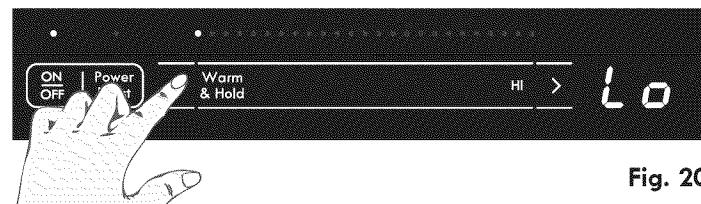
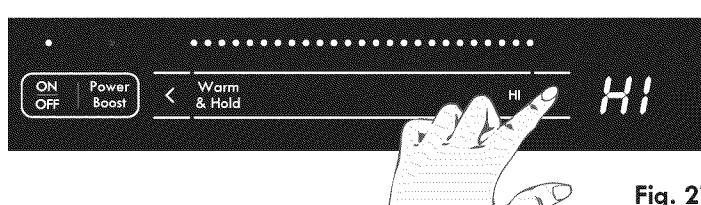

Fig. 20
Fig. 21
Touch < or/and > slew pads for precise power value setting. At startup, pressing < will set the control at Low (Fig. 20) and pressing > will set it at Hi (Fig. 21).
4. Set the desired power level for the Cooking Zone by using one of the three methods explained earlier. If the > key pad (Fig. 21) is touched the Cooking Zone will start at Hi power level (the Cooking Zone Alpha-Numeric display will indicate **Hi**).
If the **<** key pad (Fig. 20) is touched once the Cooking Zone will start at the low power level (the Cooking Zone Alpha-Numeric display will show "Lo" and the control will beep once). **PLEASE NOTE:** If the cookware requirements for the Cooking Zone (See pages 6 & 7) are not met the sensors will detect a problem and the display will flash with the power level in the affected Cooking Zone Alpha-Numeric display. Any problems must be corrected before proceeding.